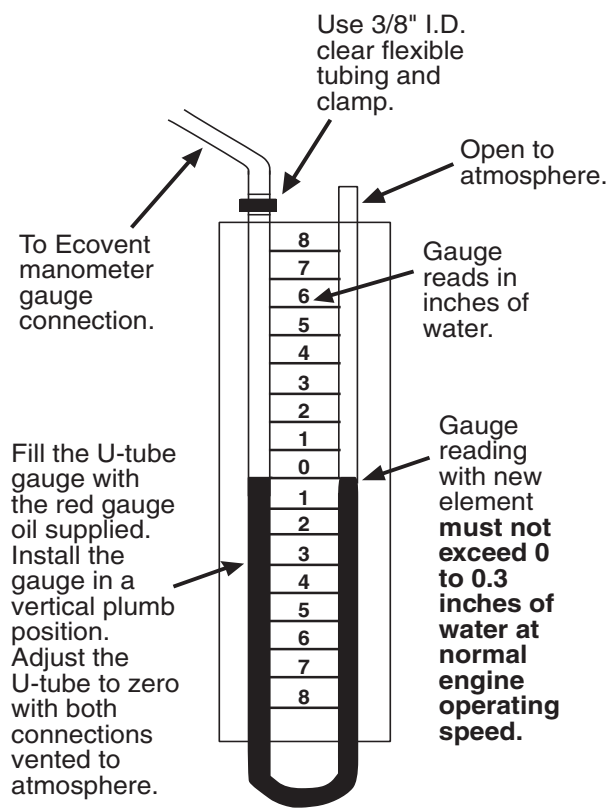

Figure 7 • U-tube Manometer Gauge Reading
If you connect the EcoVent’s outlet hose to the air inlet flow **before** the air intake filter, position the end of the hose so that the vacuum created by the air flow produces a 0" to 0.3" H2O positive pressure reading on the U-tube manometer. See figure 7. At normal engine operating speed a new EcoVent unit must not have more than 0.3" H2O positive pressure!
9. Check the adjustment of the EcoVent by starting the engine and running it at normal operating speed. The U-tube manometer gauge should have a 0" to 0.3" H2O positive pressure reading. See figure 7. If not, adjust the air flow until it does. See the Section entitled Adjusting the Air Flow for more information.
6. Install a control valve on the hose used in Step 5, then attach the end of the hose directly to the engine's air intake ducting and secure with a hose clamp. You can attach the hose either before or after the engine's air filter. The control valve is used to regulate the maximum 0" to 0.3" H2O positive pressure reading for the new EcoVent element. See figure 7. Do not adjust this valve after you have properly set it to achieve the 0" to 0.3" H2O positive pressure reading.
With the EcoVent's outlet hose connected, along with the control valve, directly to the engine air intake ducting, simply adjust the control valve so that the vacuum created by the air flow is 0" to 0.3" H2O positive pressure reading on the U-tube manometer gauge. See figure 7. At normal operating speed a new EcoVent unit must not have more than 0.3" H2O positive pressure!